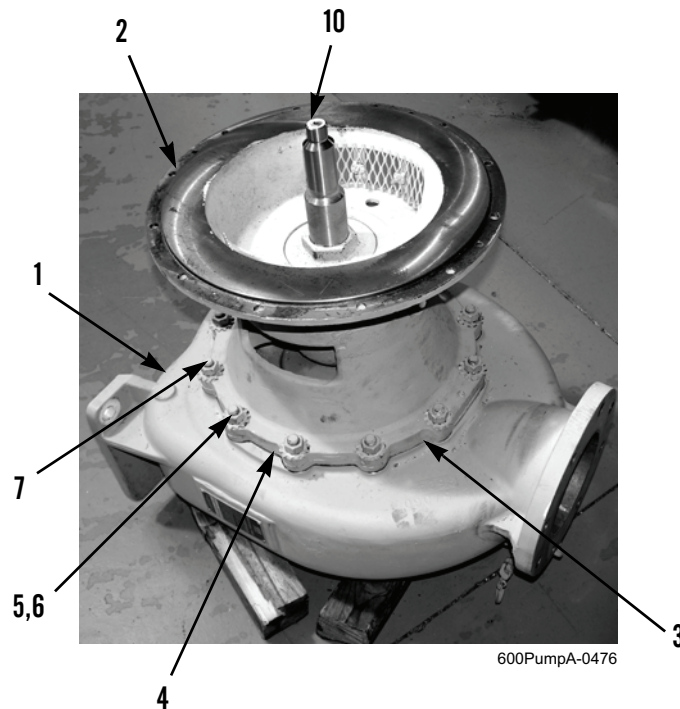

Figure 29. Installing Intermediate Housing and Seal Plate on Pump Casing.
22. Use suitable lifting equipment to position intermediate housing (Figure 29, Item 2) and seal plate (Figure 29, Item 3) as an assembly against gasket (Figure 29, Item 4) and pump casing (Figure 29, Item 1).
23. Ensure impeller shaft (Figure 29, Item 10) turns freely.
24. Install 12 new lockwashers (Figure 29, Item 6) and nuts (Figure 29, Item 5) on studs (Figure 29, Item 7). Tighten nuts securely and evenly to 44 lb-ft (60 Nm).